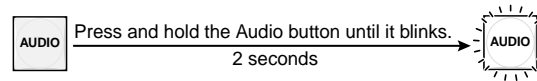

Figure 3-59 — Select Audio mode
2. Press and **hold** the Audio button for approximately 2 seconds (figure 3-59).